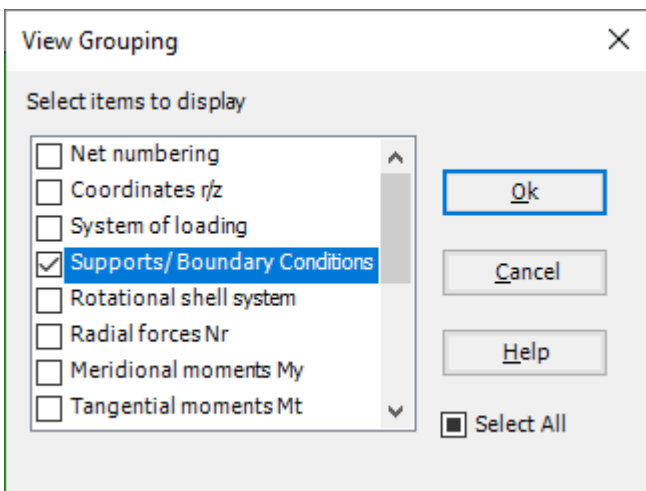

Figure 3.28 "View Grouping" check group box
- From "Options" menu in the "Graphic" tab, choose "View Grouping" command. The "View Grouping" check group box in Figure 3.28 appears